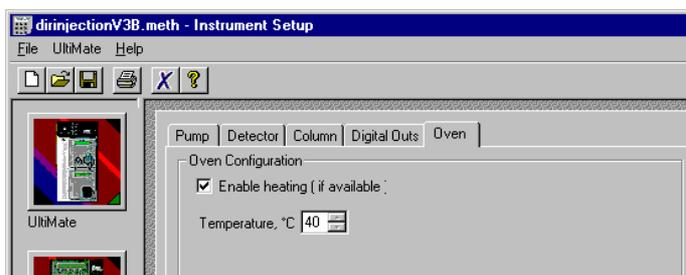

FIGURE 2-31 The Oven Setup Window
- Choose the **Oven** tab in the **Instrument Setup** window to display the oven setup window (FIGURE 2-31).